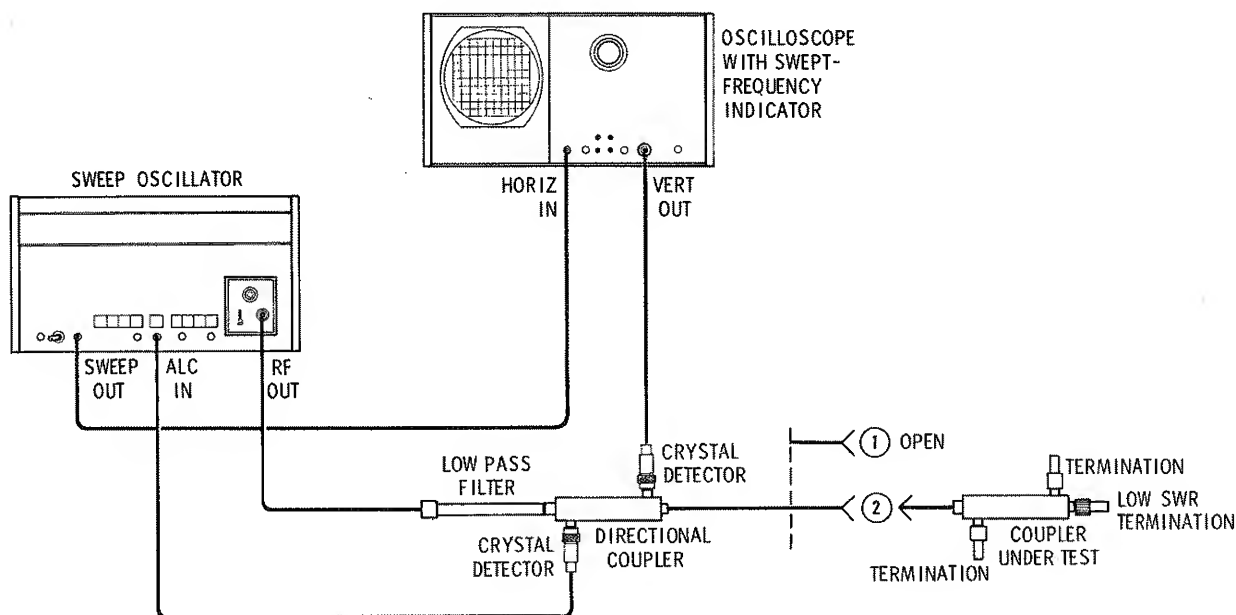

Figure 8. Swept-Frequency Primary-Line SWR Test Setup
- a. Connect the equipment as at (1) in Figure 8.
1. Connect the dual-directional coupler under test as shown at (2) in Figure 8.